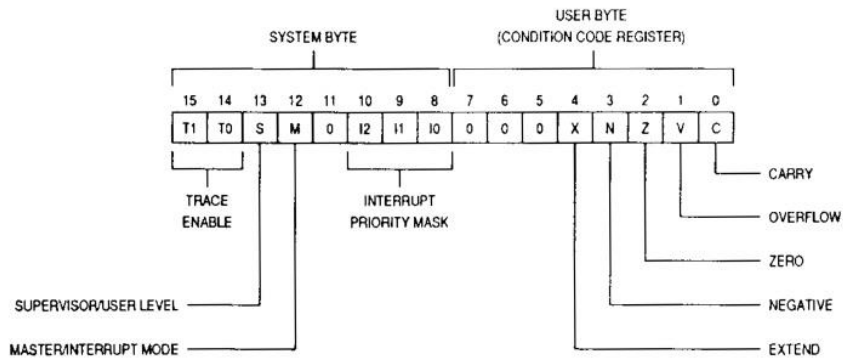

Figure 4
The SR (see Figure 4) stores the processor status. It contains the condition codes that reflect the results of a previous operation and can be used for conditional instruction execution in a program. The condition codes are extend (X), negative (N), zero (Z), overflow (V), and carry (C). The user byte, which contains the condition codes, is the only portion of the SR information available in the user privilege level, and it is referenced as the